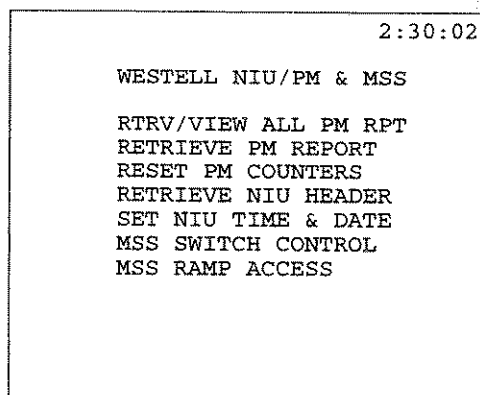

Figure 3.9.A Westell NIU/PM & MSS
3) Refer to Figure 3.9.A, Westell PM/NIU & MSS. Continue reading on in this section for more background information and individual procedures for each capability.